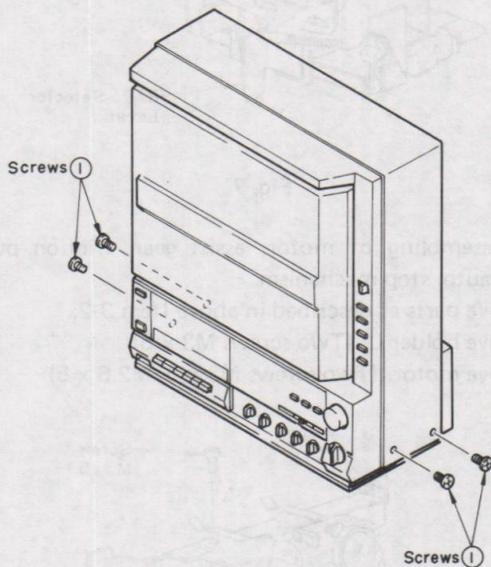

Fig. 1
- 2) Remove four screws ① (on both sides) in Fig. 1.